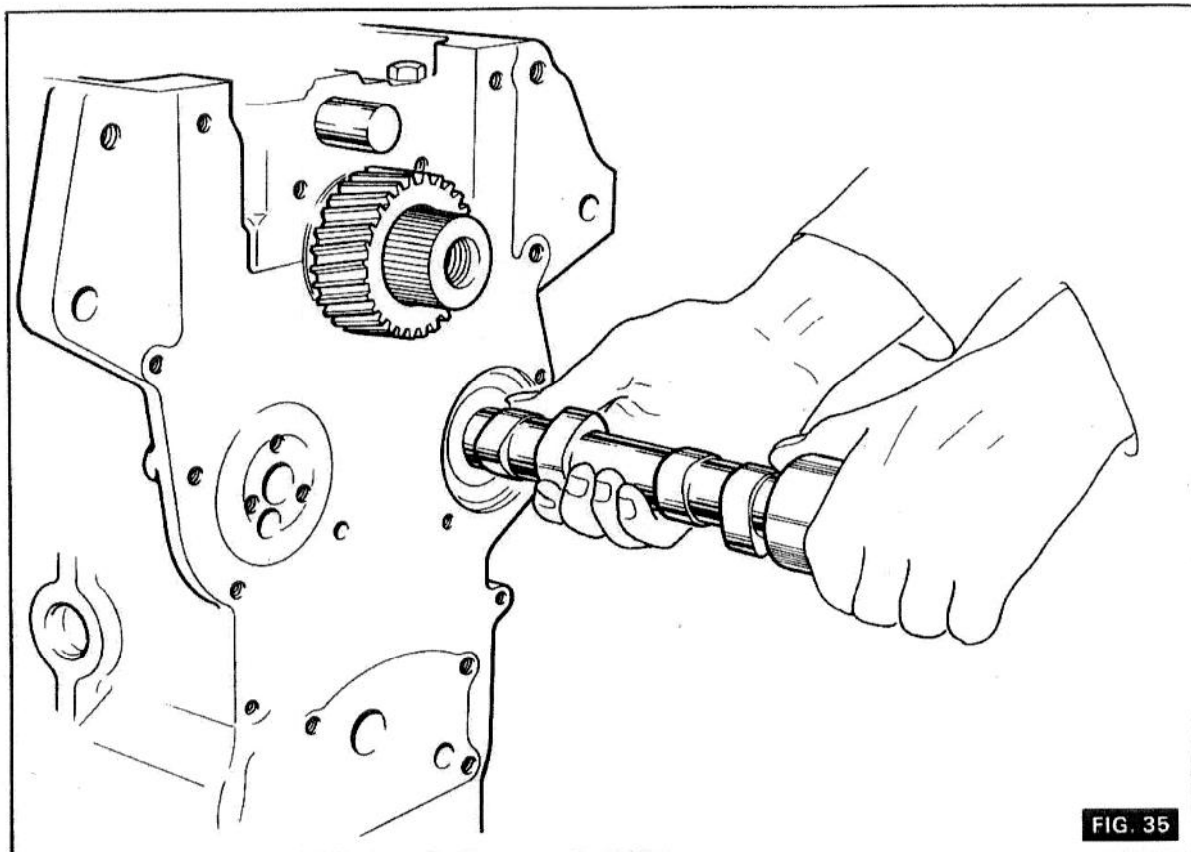

FIG. 35
6. The camshaft may now be withdrawn from the cylinder block. Care should be exercised to avoid possible damage to the cams or journals during withdrawal. (Refer to Fig. 35).